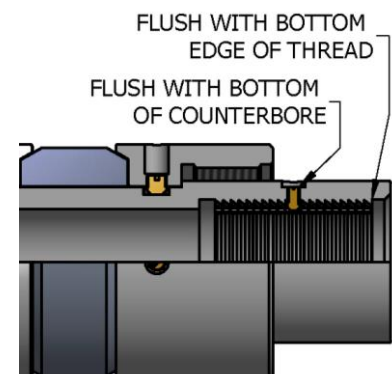

Fig. 7
K-2.2) Thread ratchet ring (3) into rubber mandrel (11) until flush with bottom edge of thread in rubber mandrel (11) (Fig. 7).
**NOTE4:** Threads on ratchet ring (3) are directional - it **MUST** be in installed in correct direction for tool to work properly.
K-2.4) Screw shear screw (30) into rubber mandrel (11). Tighten until shear screw is flush with bottom of counter bore of threaded hole in rubber mandrel (11) (Fig. 7).